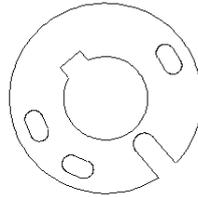

Figure 3-1
- (1) Add a part as shown in Figure 3-1, click button "Move down" to move the part to the lower left corner. Then select part, click "Array" in menu "Interactive", thus the "input quantity" box is popped up.